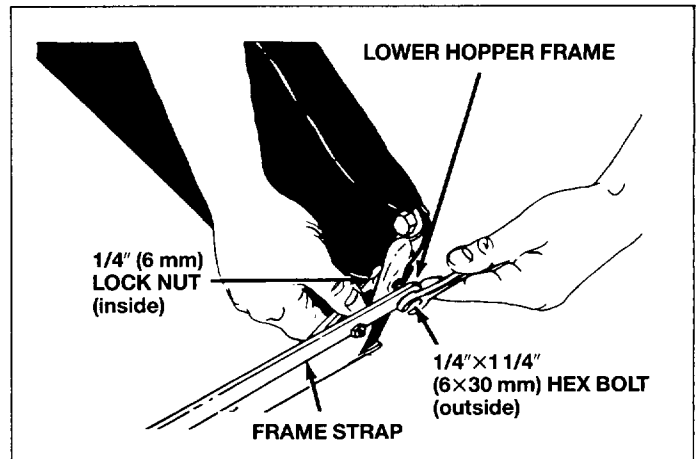

Fig. 19
- Assemble the frame strap to the lower hopper frame. Secure with $1/4" \times 1-1/4"$ (6×30 mm) hex bolts and $1/4"$ (6 mm) lock nuts. See figure 19.